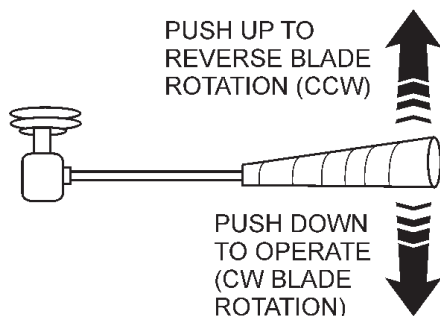

Figure 31. Hopper Remixer Control Lever
6. Push the Hopper Remixer Control Lever **DOWNWARD** (Figure 31). The Hopper Remixer Control lever is located to the left of the Hydraulic Temperature gauge. Observe that the blades (Figure 32) inside the hopper are turning in a clockwise direction (FORWARD). To turn the blades in a counterclockwise direction (REVERSE), push the Hopper Remixer Control lever **UPWARD** (Figure 31).